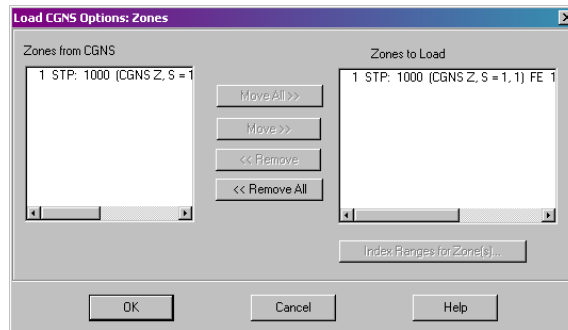

Figure 7-3. The CGNS Loader: Zones dialog.
- **Select Zones:** Launches the Load CGNS Options: Zones dialog, which allows you to select specific zones and partial zones to load. The dialog is shown in Figure 7-3.
This dialog is used to specify the zones to load from the data file, and is shown in Figure 7-3.